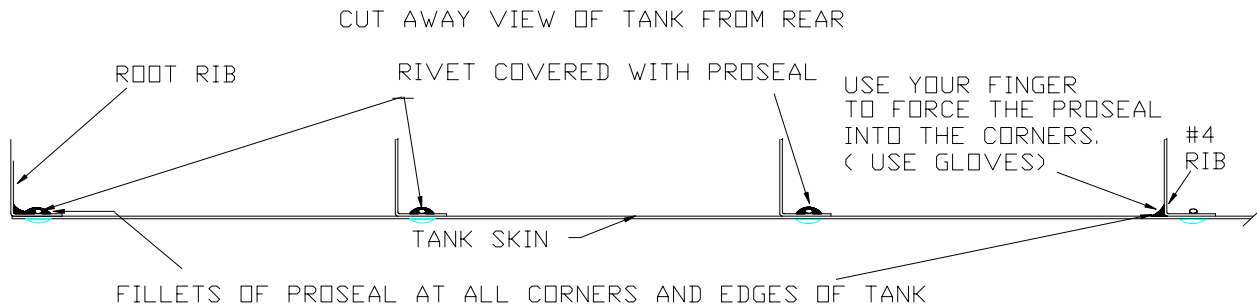

Figure 8.25.4
32) Fillet all corners and edges with Proseal. Pay close attention to the corners where the Ribs, Bulkheads and Spars meet and where the Stringer goes through the #4 or #5 Solid Rib. Figure 8.25.4.